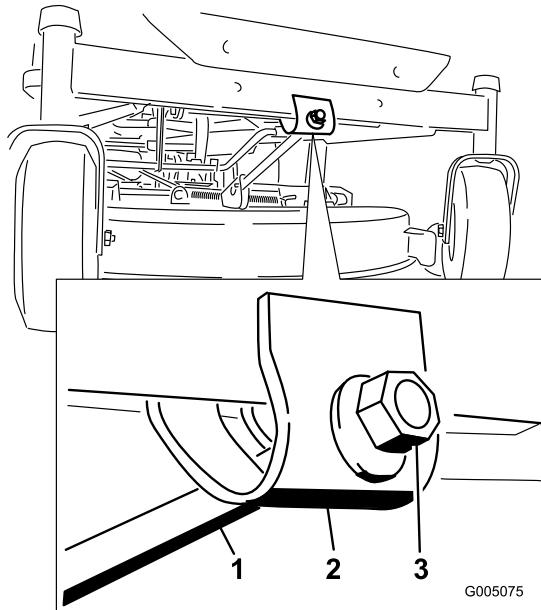

Figure 50
6. To adjust the front-to-rear blade slope, rotate the adjustment nut in the front of the mower (Figure 50).